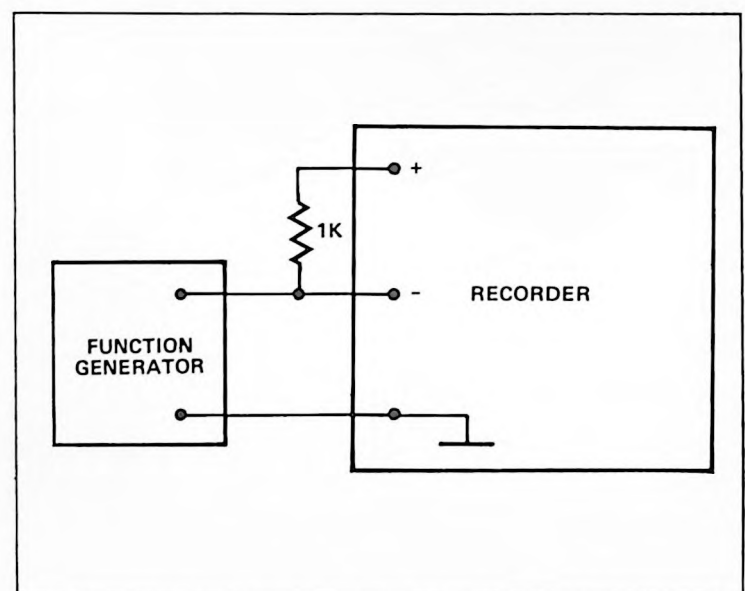

Figure 5-16. Connections for AC CMR Test
a. Connect function generator to recorder with 1k ohm resistor across input terminals as shown in Figure 5-16.